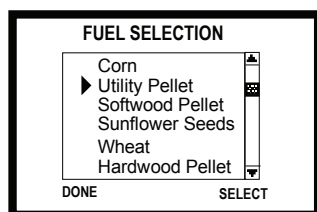

Figure 9.1
- For example, if you have selected wood pellets and you are burning corn, the appliance may not light, it may go out or overfeed. **Figure 9.1.**